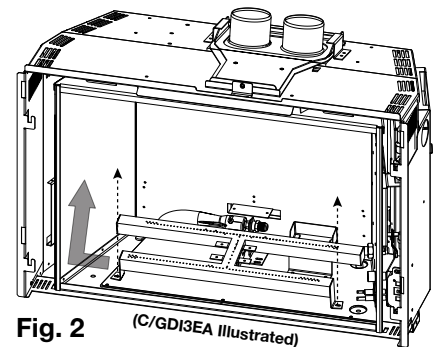

Fig. 2 (C/GDI3EA Illustrated)
- 3. Remove the 2 screws holding the burner tube, then slide it to the left, up, and out (**Fig. 2**).